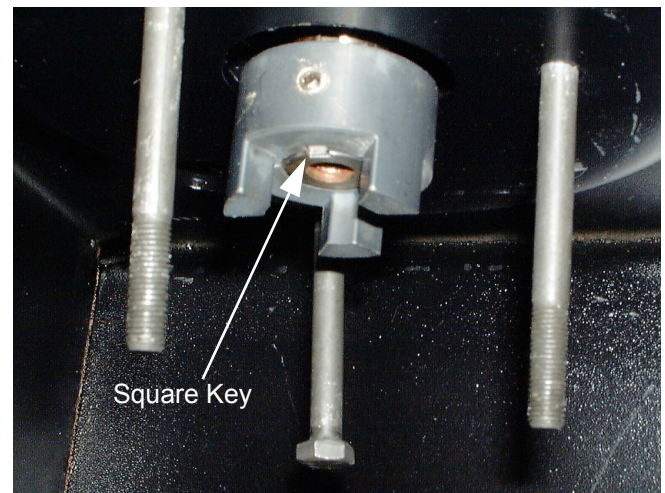

Figure 4
5. Make certain there is a square key between the engine crankshaft and the upper coupling half. _____ See Figure 4.